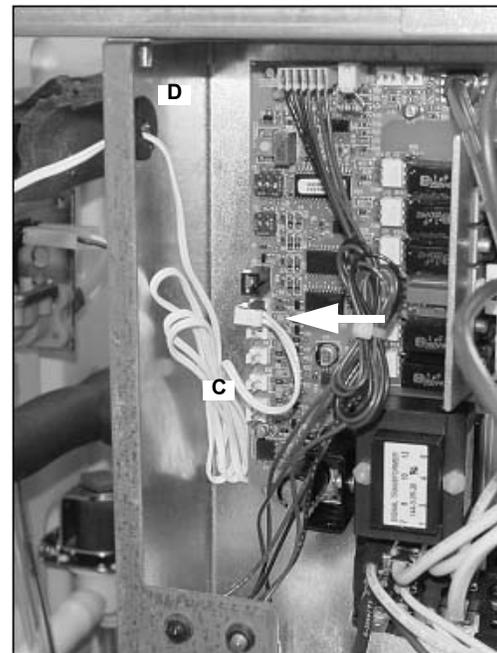

Figure 54.
59. ty switch harness (C) through the control box and attach to the control board.
Install the rubber grommet (D) in the hole (Figure 54).